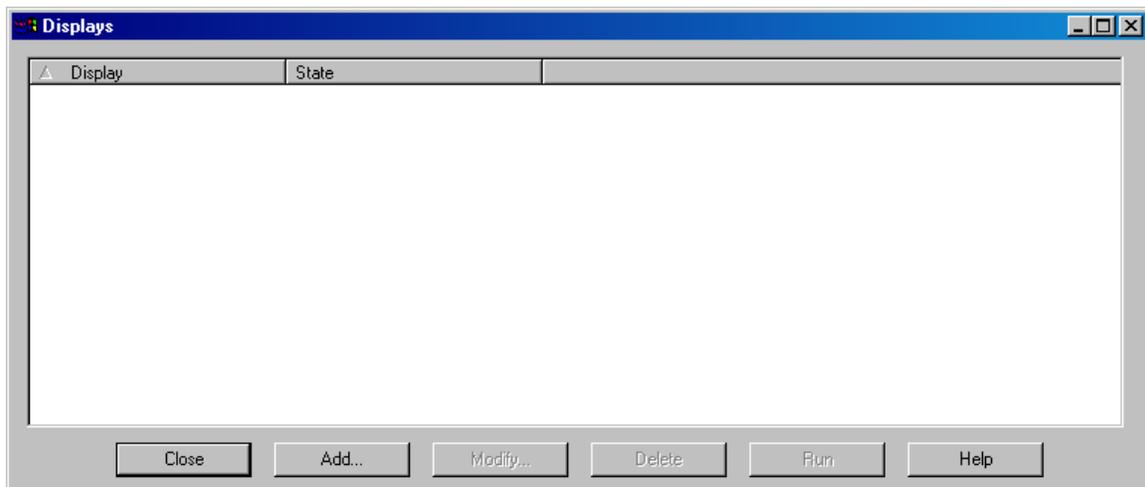

Figure 27 Displays Dialog
3. Once the packet is activated go to the **Parameter** menu and select **Displays**. The dialog shown in Figure 27 will be displayed.